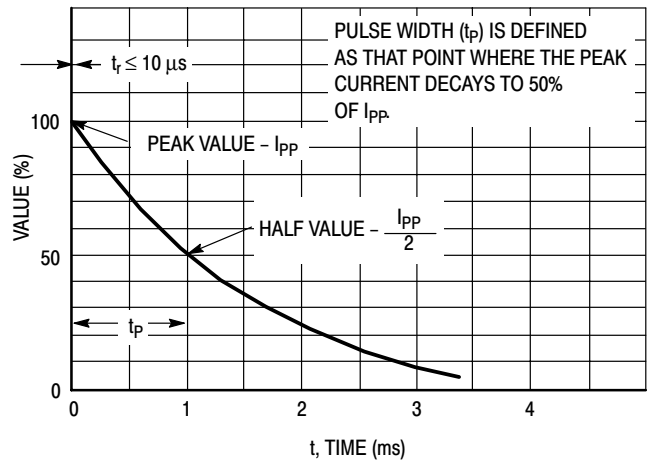
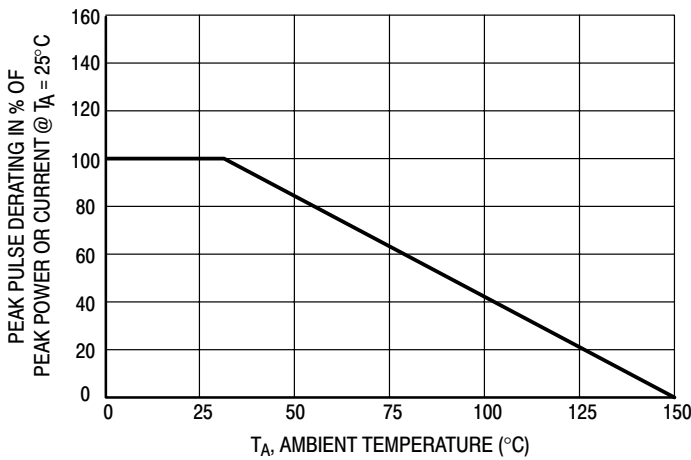

Figure 2. Pulse Waveform
Figure 3. Pulse Derating Curve
6. Surge current waveform per Figure 2 and derate per Figure 3 of the General Data – 1500 Watt at the beginning of this group.